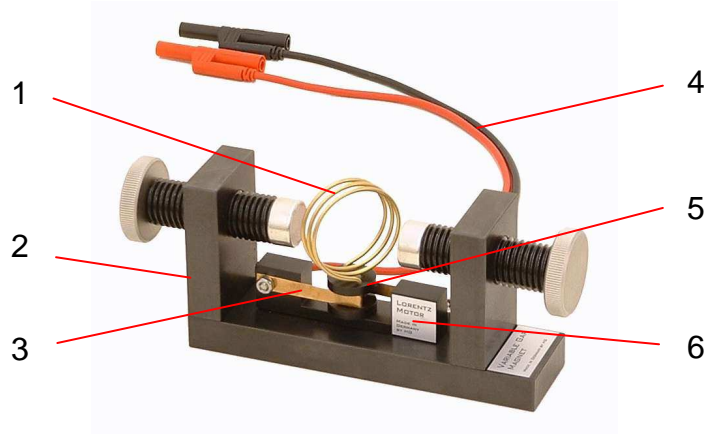

Fig. 1: Components
The permanently attached connection leads (4) are equipped with commercially available lab safety plugs with 4 mm diameter. In one of the leads there is also a series resistor with approx. 0.16 ohms (not visible in Fig. 1) designed to limit the maximum motor current to such an extent as to avoid any disturbance to electronic control performed by standard power supplies.